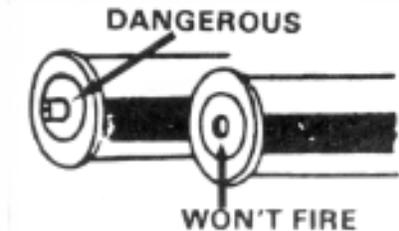

Figure 1-15. Unserviceable Primers
d. **cartridge cases.** The cartridge case of semi-fixed ammunition **should** be checked for corrosion. In **older** ammunition with brass canisters, light brown staining is normal oxidation; but black, green, yellow, or white stains mean heavy corrosion which must be cleaned off as soon as possible. Check new and old cartridges carefully for cracks, bulges, and burrs. The primer must **be** flush with the base of the case. If it sticks out too far, it's dangerous; if it sits in too far, the round will not fire (Figure 1-15).